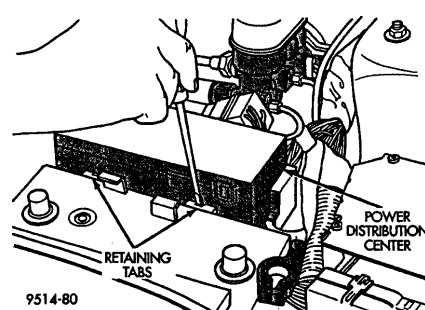

Fig. 2
4. Squeeze the tabs on the PDC (Power Distribution Center) while pulling the PDC up to remove it from the bracket (refer to Fig. 2)